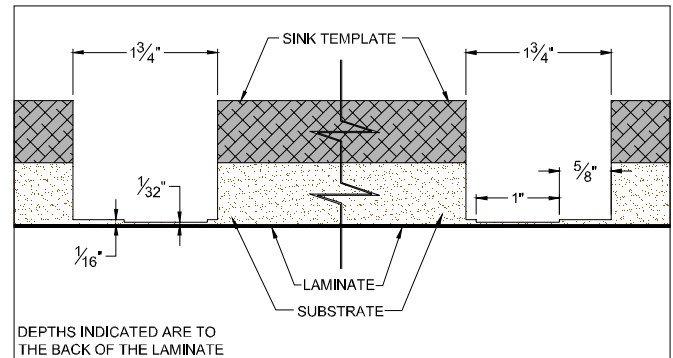

Figure 10A
- Index a 3¹/₄ hp or 2¹/₂ hp plunge router with a 1" straight cut router bit and a 1¹/₄" (31.75mm) template guide to remove the remaining substrate to within 1¹/₃₂" of the laminate. (FIG. 10A)